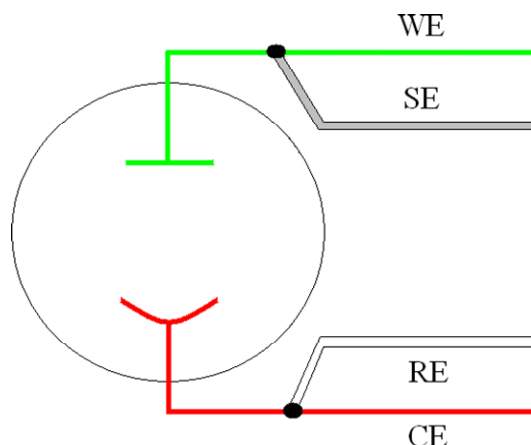

Figure 7. Two-Electrode Connection
a) Batteries, capacitors, resistors, fuel cells, and some sensors are generally connected using a two-terminal connection (Figure 7). The connectors for the cable leads are designed to allow easy interconnection of the working/sense and reference/counter leads.